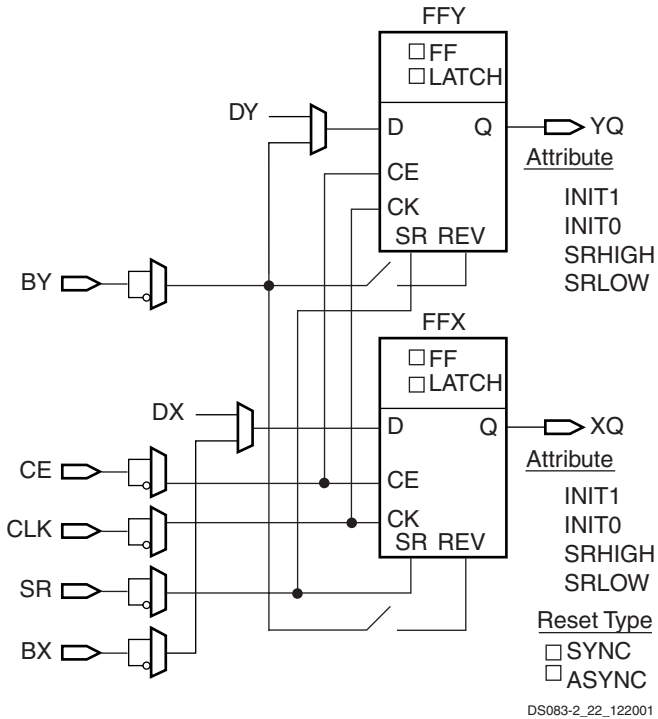

Figure 35: Register / Latch Configuration in a Slice
In addition to clock (CK) and clock enable (CE) signals, each slice has set and reset signals (SR and BY slice inputs). SR forces the storage element into the state specified by the attribute SRHIGH or SRLow. SRHIGH forces a logic 1 when SR is asserted. SRLow forces a logic 0. When SR is used, an optional second input (BY) forces the storage element into the opposite state via the REV pin. The reset condition is predominant over the set condition. (See Figure 35.)